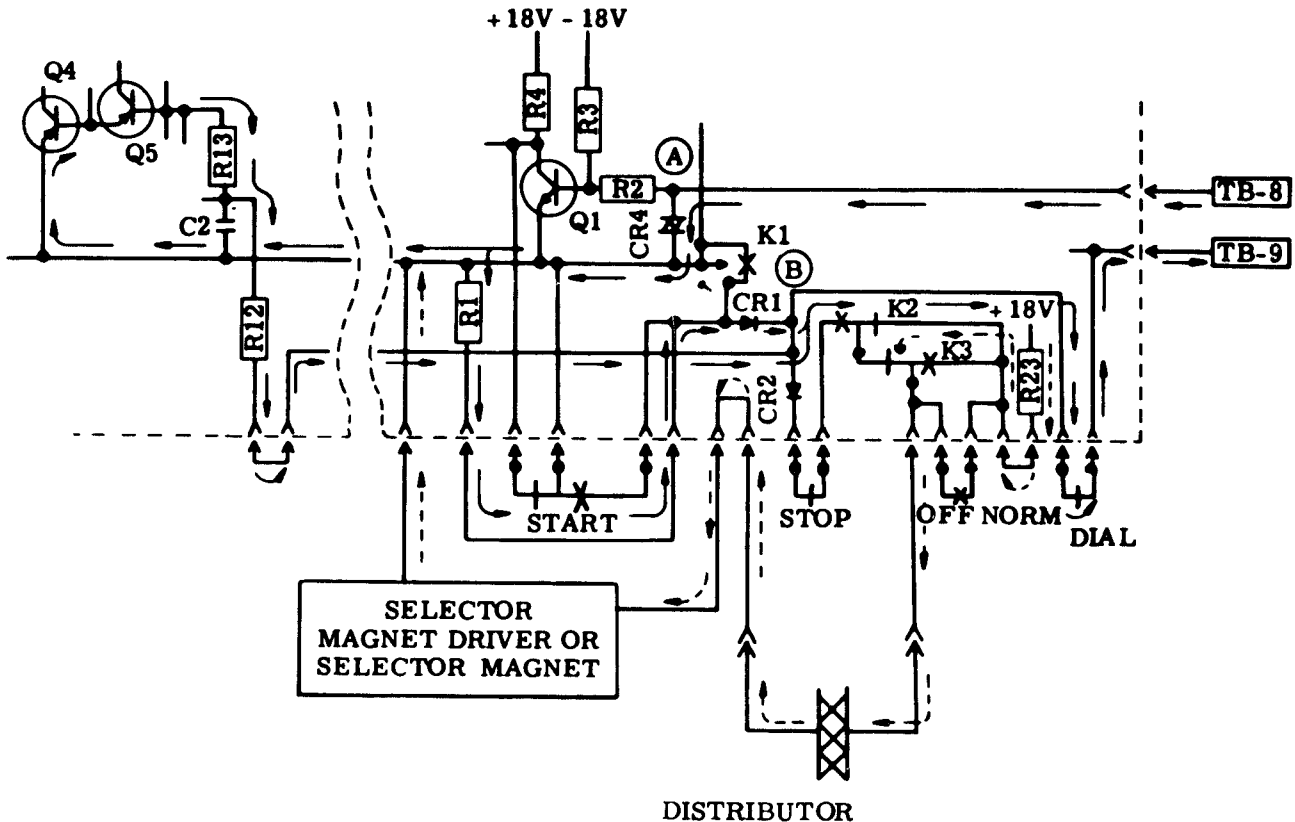

Figure 8 - Local-Remote Control Circuit - Current Flow (Idle)
3.25 The schematic diagram of the local-remote control circuit (Figure 8) shows the current flow during the idle line condition. In this state, all relays and lamps are off. This requires that transistors Q3, Q6, and Q9 be off and that Q2, Q4, and Q8 be in conduction. The output transistor of the motor delay timer is off, and the selector magnet driver is marking.
3.26 The signal loop is a 240-volt source with 4000 ohms in series. In the idle condition the local-remote control offers 43,800 ohms of local resistance to the signal loop. The flow of loop current in this condition is shown in Figure 8. Current flows from TB8, the positive idle terminal, across CR4, through R1 and CR1 in parallel with the base emitter junction of Q4 and Q5, R13 and R12. From this point, current flows through the dial pulse contacts to terminal TB9.
3.27 The loop current develops a positive potential at A in Figure 8 holding Q1 on. The collector of Q1 is shorted to ground through START pushbutton contacts 1 and 2. Therefore, no signal may be developed at the collector unless the START pushbutton is depressed. The loop current develops approximately a -200 volt potential at point B. This potential will hold Q4 in conduction while holding Q6 and the connect circuit off.
and the unit to revert to the idle line condition. The current loop is shown in Figure 8.
3.33 **Remote Connection:** On an incoming call, the teletypewriter may be connected remotely while in the idle line or local conditions. The loop path is shown in Figure 8 for both of these conditions. The incoming call causes the exchange to reverse the loop polarity. This causes the potential at the junction of CR1 and CR2 to change from -200 volts to approximately +200 volts. The potential causes the connect circuit to operate as described in 3.32
3.35 **Local Disconnect:** Operation of the STOP pushbutton while in the connect condition opens contacts 4 and 5 which are in series with the loop, and breaks the loop. When the exchange recognizes the break, it reverses the loop polarity. The reverse polarity is blocked by CR2, and current flows through CR1 along the path shown in Figure 8. At point A a -200 volt potential is developed due to the current flow described in 3.26 through 3.28. This potential causes the connect circuit to turn off and the teletypewriter stops running open. The input to the motor delay timer becomes negative, and the timer will time out. After 0.55 second the motor control relay releases, and the motor will turn off.